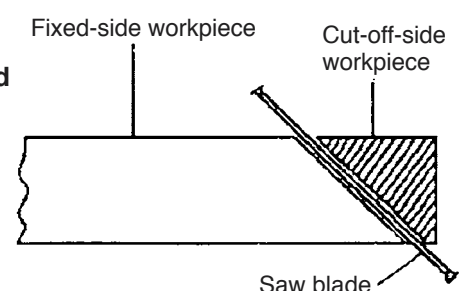

Fig. 14
**When the workpiece is secured on the left side, the cut-off portion comes to rest on the side of the saw blade as illustrated in Fig. 14. If the handle is raised before the saw blade rotation comes to a complete stop, there is a chance that the cut-off portion of the workpiece could become jammed against the saw blade, causing a hazardous condition. Instruct the customer to ensure without fail that the saw blade comes to a complete stop before attempting to raise the handle.**